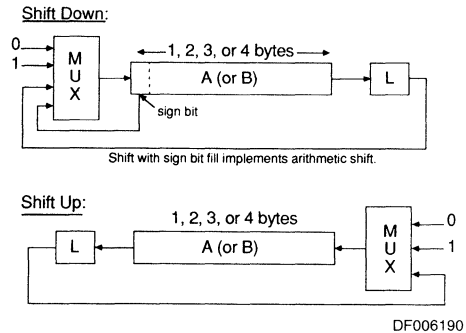

Figure 5. Upshift/Downshift Using Link Bit
The link (L) flag is generally loaded with the bit moved out of the highest selected byte in the case of upshifts, or the bit moved out of the least significant byte for downshifts. Figure 5 shows the shift operation using link bit. Other status flags have specialized uses, explained in the following sections.